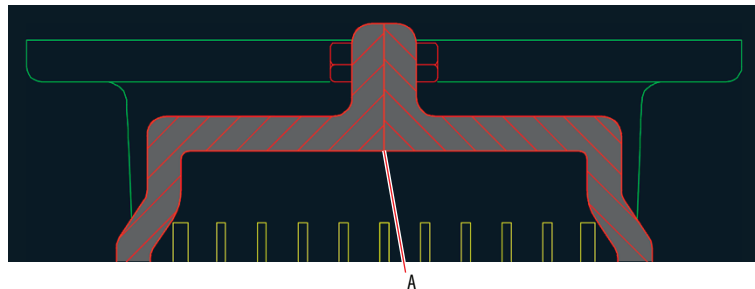

FIGURE 8.16 Changing the angle and setting the origin of an individual hatch pattern object
3. Select the upper-right hatch pattern, type **90** in the Angle text box, and press the Tab key. Click the Set Origin button, and then click point A shown in Figure 8.16. Press Esc to exit the ribbon's Hatch Editor tab.
4. Select the hatch pattern on the left side, click the Set Origin button, click point A as shown in Figure 8.16, and press Esc. The outer patterns on the left and right both meet symmetrically at point A.